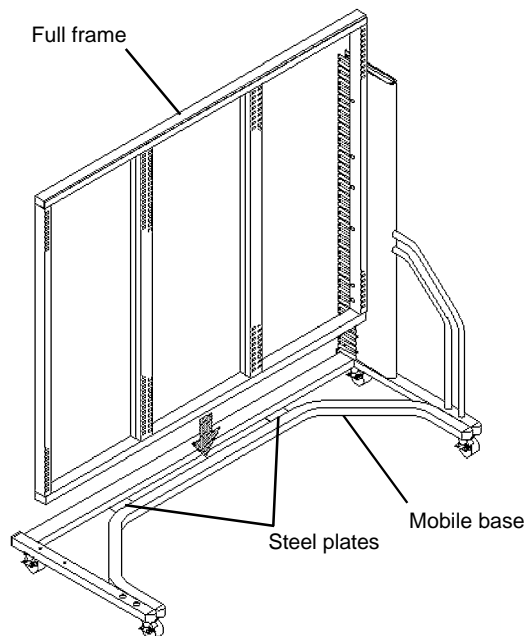

Figure 3a
**NOTE:** The rear of the **Mobile Base** has a straight tube and spaced from it, a formed tube. The tubes are joined by two steel plates. The Full Frame is positioned on these plates and between the tubes. See **Figure 3a**.